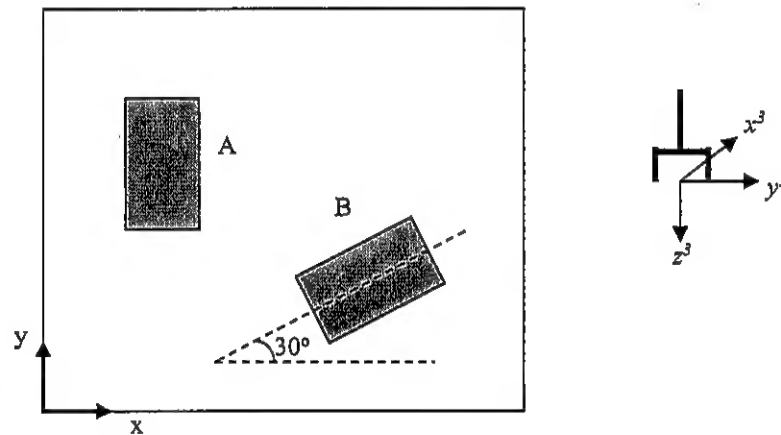

Fig. Q2
- (a) Consider the top view of a robotic workstation, with parts *A* and *B*, as shown in Fig.Q2. Suppose the centroid of part *A* has coordinates $[4, 9, 3]^T$ and the centroid of part *B* has coordinates $[8, 5, 4]^T$.